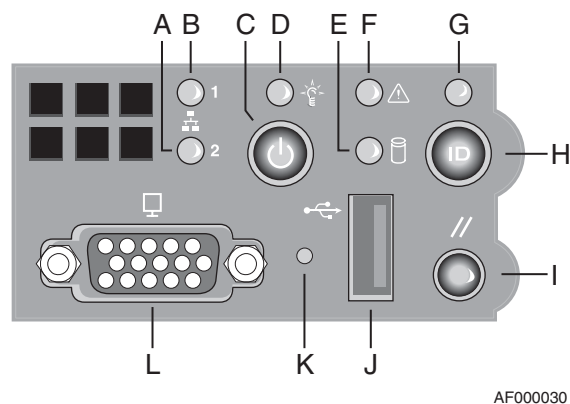

Figure 1-1 Front Controls on the Cluster Nodes
Power on any mass storage units attached to your cluster, then press the power button on the front of the head node (see callout C in Figure 1-1) and let it fully boot. Repeat the process on all the other nodes (compute nodes) in the cluster.
3. To power off the compute nodes, press the power button (for up to 5 seconds) on the front panel of each unit (see Figure 1-1 on page 3).
4. To power off optional storage units in the cluster rack, press the power button(s) on their rear panel to the OFF (O) position.